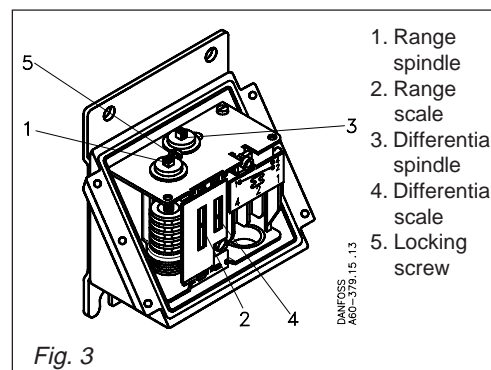

Fig. 3
When the thermostat cover is removed, and the locking screw (5, fig. 3) is loosened, the range can be set with the spindle (1) while at the same time the scale (2) is being read. In units having an adjustable differential, the spindle (3) can be used while the scale (4) is being read.